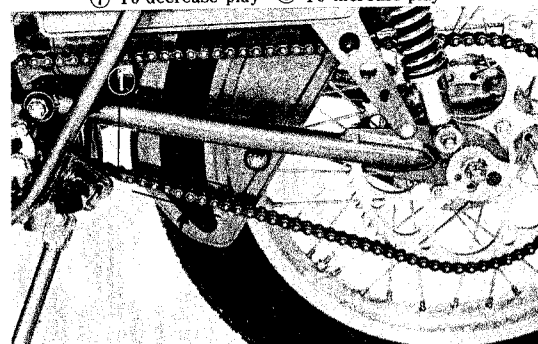

Fig. 10 ① Drive chain
- 1) Check the tension of the drive chain. This is done by moving either of the top or bottom side of the chain up and down with fingers midway between the sprockets. Drive chain tension should be adjusted to allow approximately $\frac{1}{4}$ " inch vertical movement at this point. (Fig. 10)